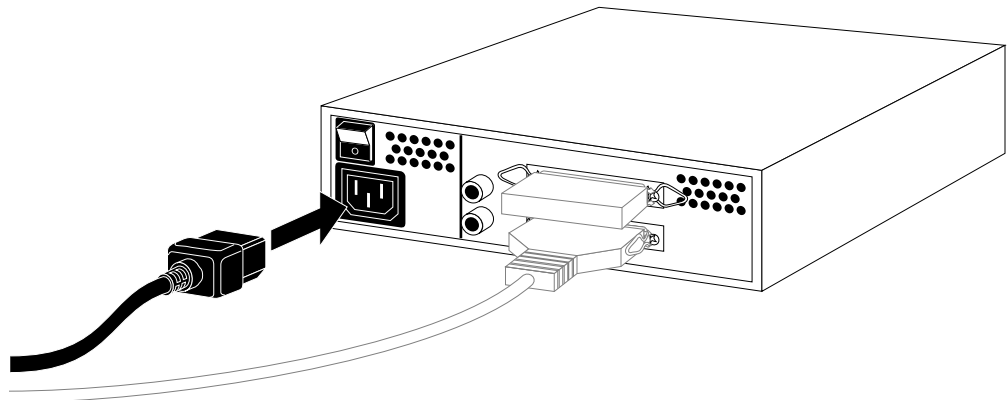

Figure 6-9 Connecting the Power Cable to an External Device
6. Connect one end of the power cable that came with the external device to the power connector on the back of the device, as shown in Figure 6-9. If you are finished connecting external devices, go on to the section “Testing the External SCSI Device” on page 102.